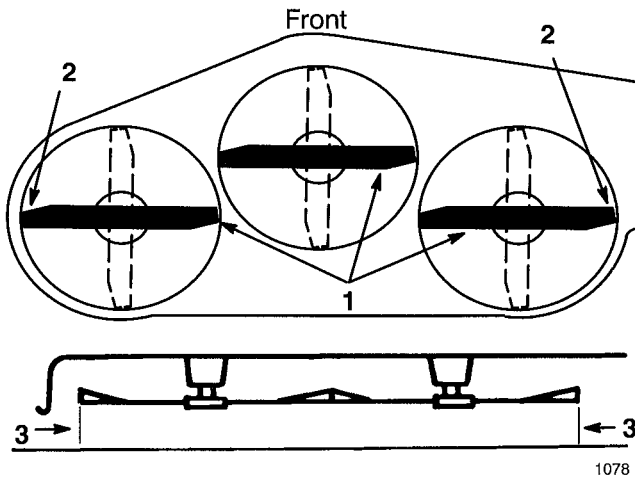

Figure 10
3. Carefully rotate blade(s) side to side (Fig. 10). Measure between the outside cutting edges and the flat surface (Fig. 10). If both measurements are not within 3/16" (4.762mm), an adjustment is required; refer to steps 4 and 5.